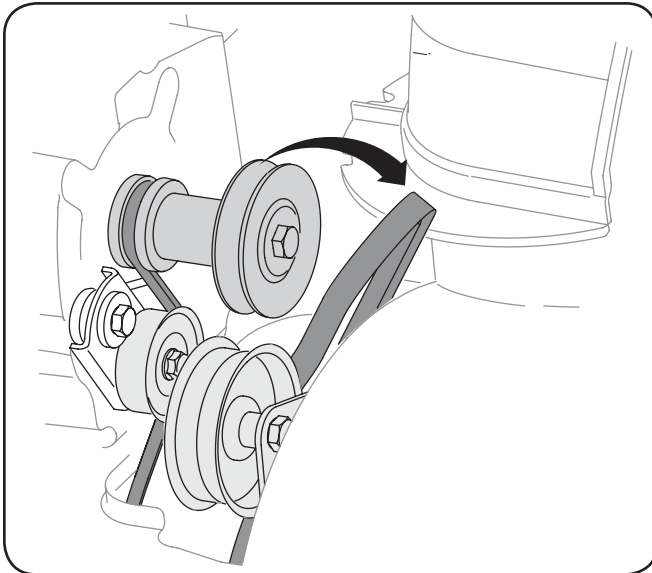

**Fig. 7-2**
3. Roll the auger belt off the engine pulley. See Fig. 7-2.